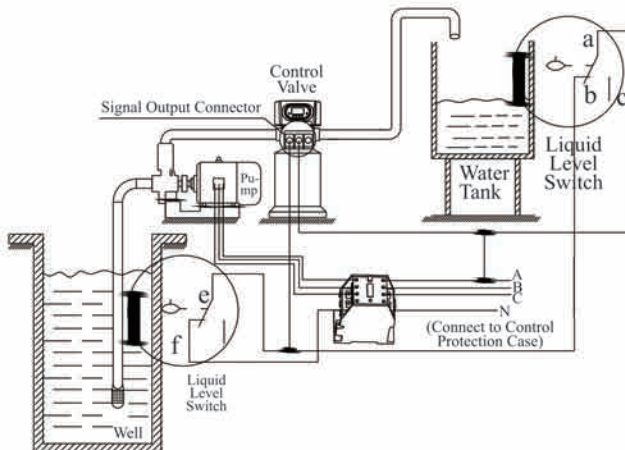

Figure 12 Wiring of Liquid Level Switch in Water Tank Controls Inlet Pump
3) Liquid Level Switch in Water Tank Controls Inlet pump (Three-phase, figure 12) (Set b-01)